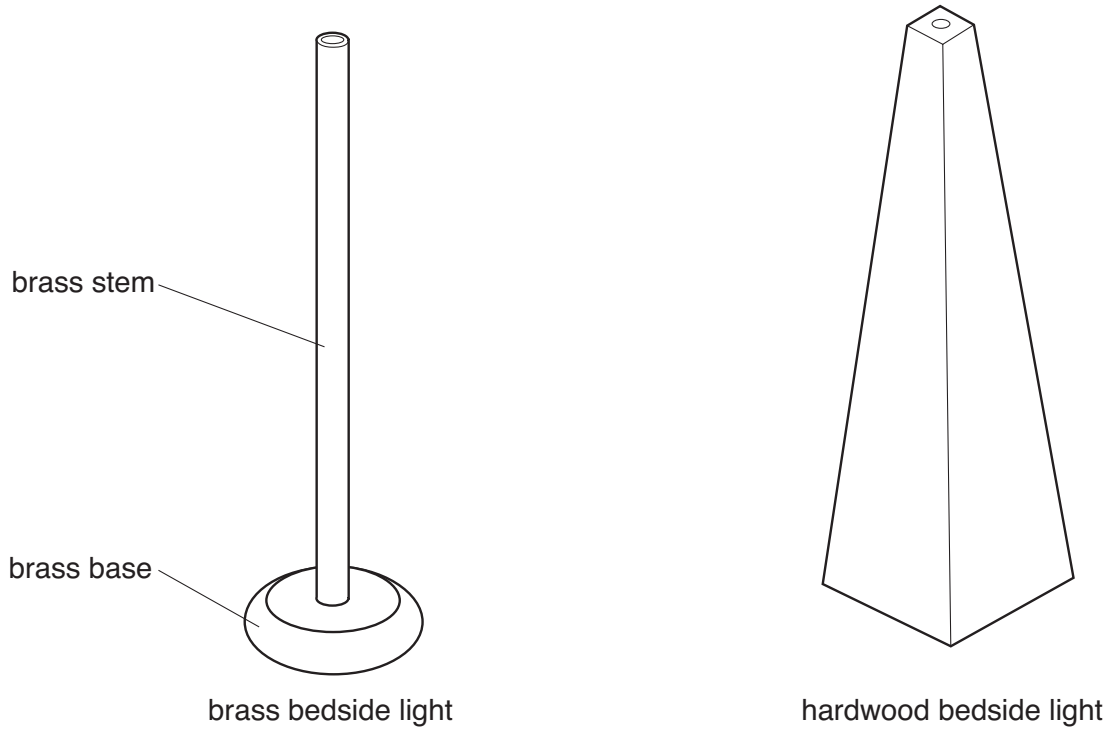

Fig. 9
- 5 This question is based on the theme of Domestic Bedside Lighting. Fig. 9 shows two different industrially manufactured bedside lights. The lampshades and fittings have been removed.